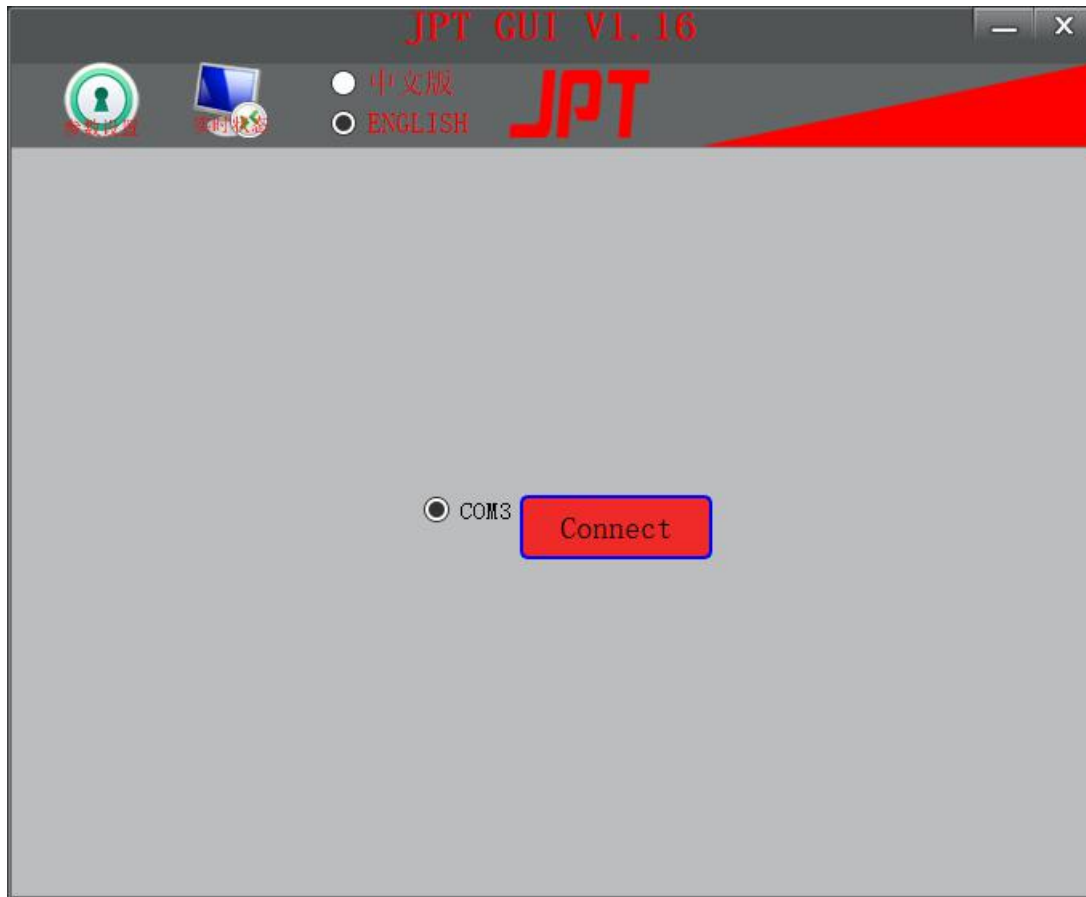

Figure 7
- 1) Activate JPT.exe program, the interface 1 will display as Figure 7.